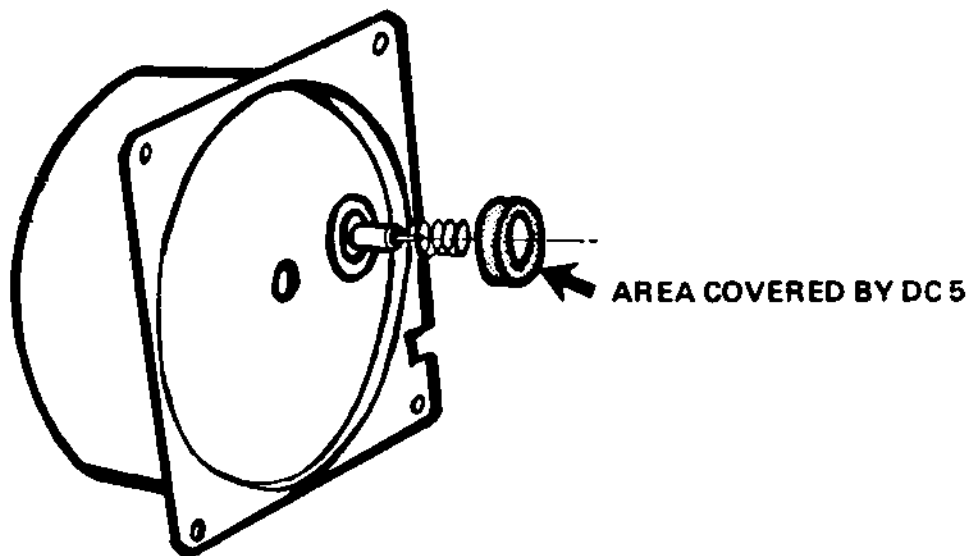

Figure 9.1-5. Installing Ion Chamber Feed-Through Gasket
| Figure 9.1-5 | Installing Ion Chamber Feed-Through Gasket              | 9.1-12 |
8. Apply light coating of DC-5 compound to ion chamber feed-through gasket (Sort Code 21410). Place a gasket over ion chamber feed-through (see figure 9.1-5).